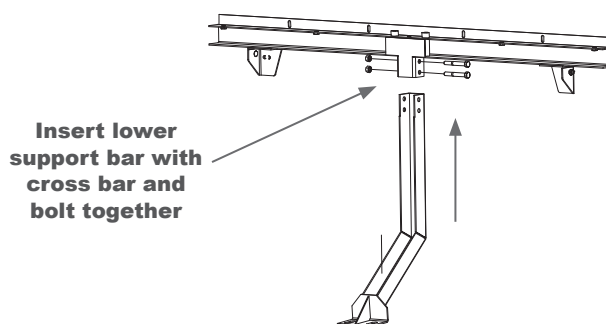

Fig. 1
- A. After the barrier has been completely installed, then proceed by attaching the (3OSB4715-07) lower and (3OSB4715-01) upper support bars. (As shown in Fig. 1) Use the two (3X114) 3/8 bolts and (3X170) nuts secure the support bars together.